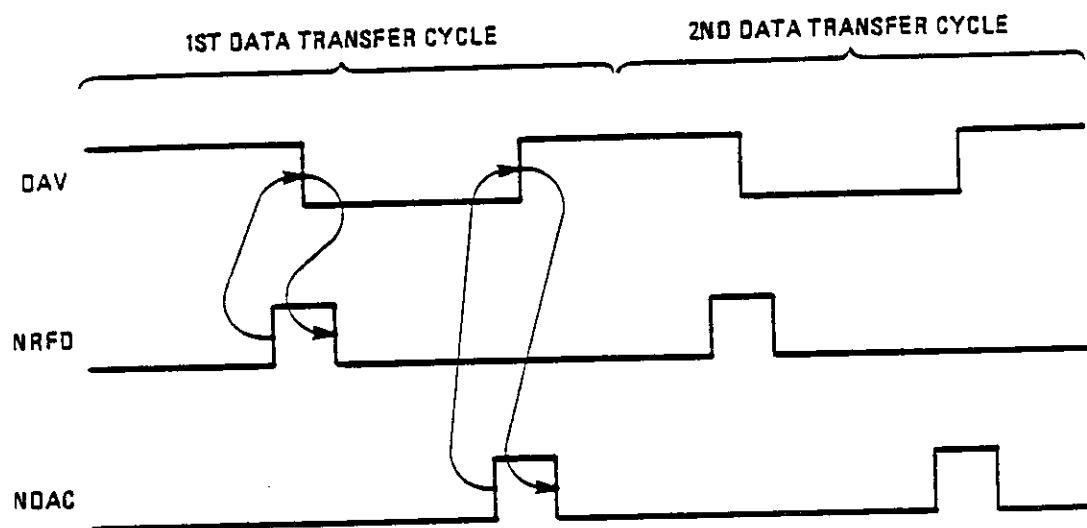
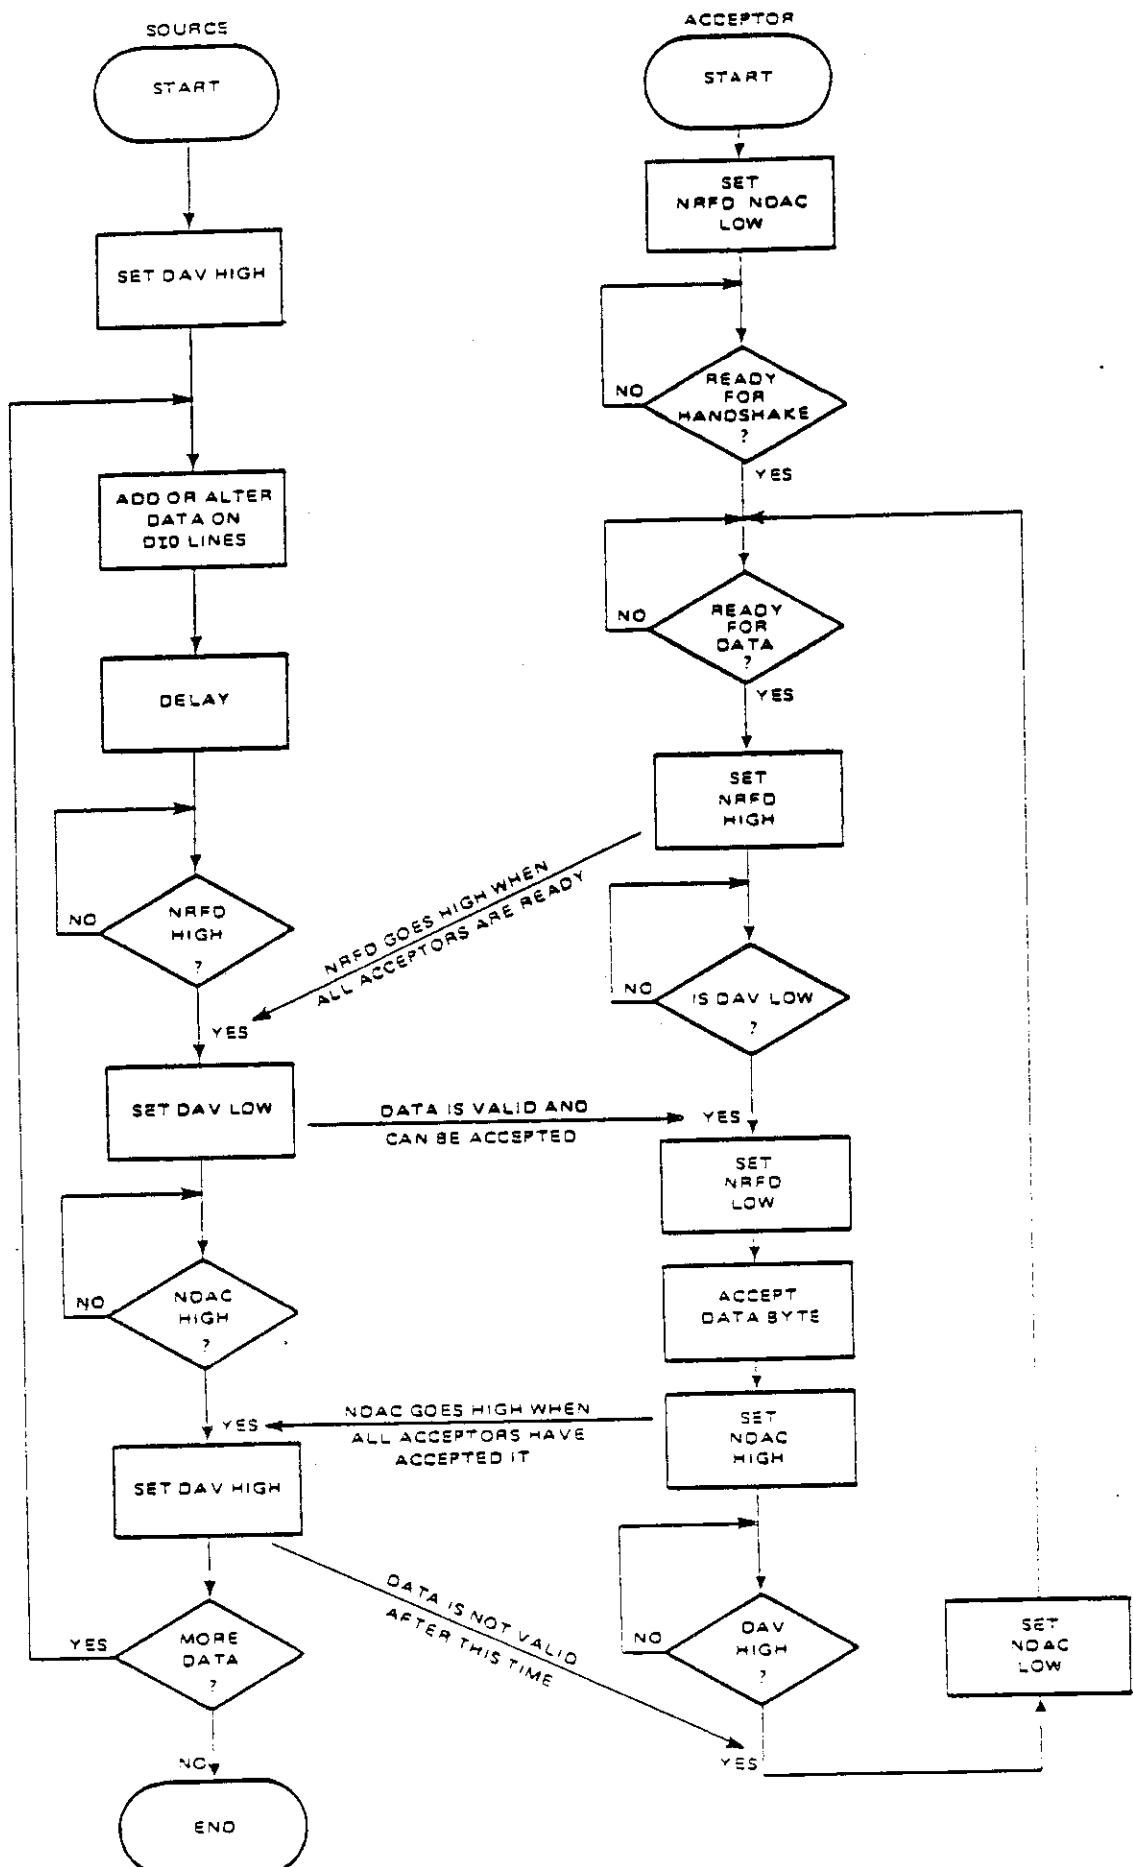

Figure 4.3 - Handshake Sequence
Figure 4.4 - Handshake Flow Chart
4.2.3.2      Refer to Figure 4.3. It shows the sequential relationship between the DAV, NRFD, and NDAC lines used to transfer data bytes. Figure 4.4 shows the handshake flow chart.